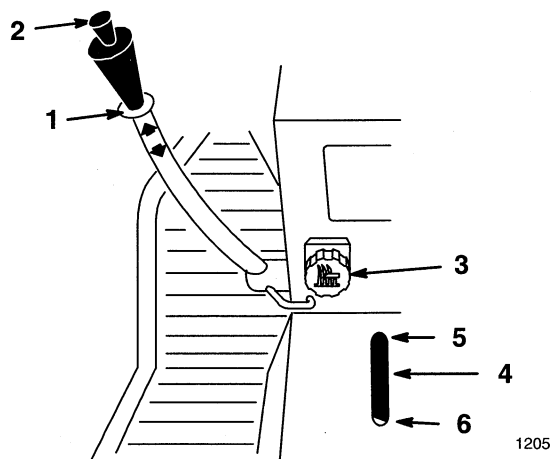

Figure 18
The attachment lift lever (Fig. 18) is used to raise and lower various attachments.
The Dial-A-Height control (Fig. 18) is used to limit the downward travel of the attachment. The Dial-A-Height knob is rotated to change the location of this stop, up or down.
1. Raise the attachment lift lever: Refer to Raising Attachments. In the raised, position the Dial-A-Height knob (Fig. 18) can be rotated to change the stop location. Turn clockwise to raise and counterclockwise to lower the height of the attachment.
2. The Dial-A-Height indicator (Fig. 18) will show the change, high to low, in attachment lift height as adjustment is made.